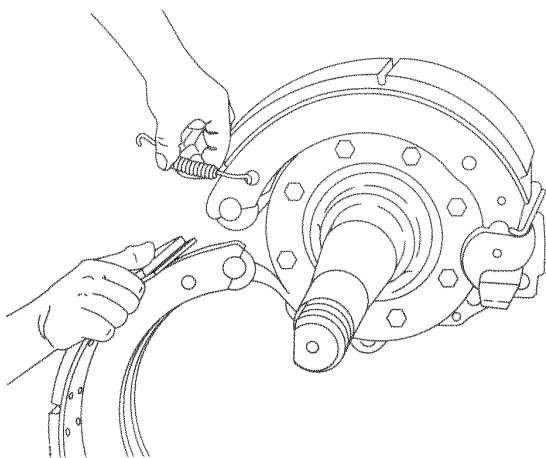

Fig. 4, Attach the Brake Shoe Retaining Springs
- 2.1 Place the upper brake shoe in position on the top anchor pin. Hold the lower brake shoe on the bottom anchor pin and attach two new brake shoe retaining springs. See Fig. 4.